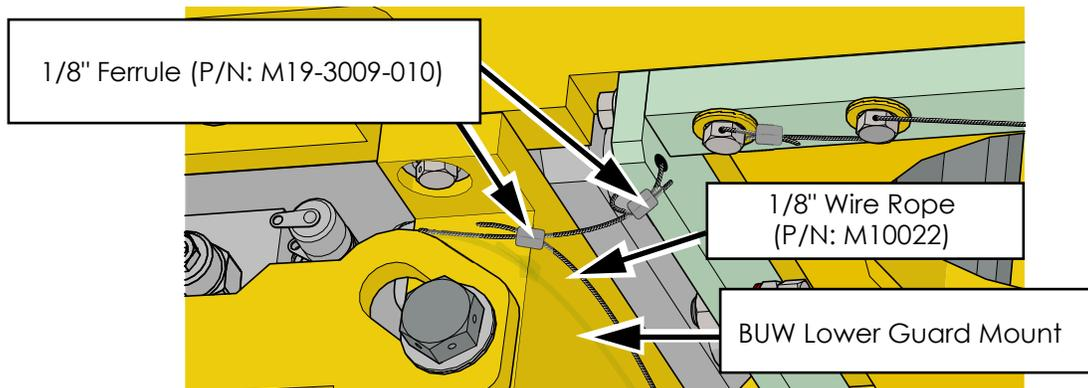

Figure 14: Safety Securement Added to Adjuster Plate
- Use 1/8" wire rope (P/N M10022) and 1/8" ferrules (P/N M19-3009-010) to secure the adjuster plate (P/N: DT33067) by looping around the Back-up Wrench lower guard mount as shown in Figure 14.